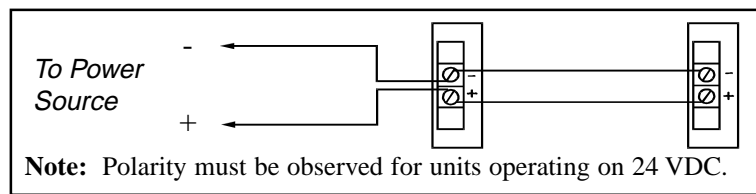

Figure 2. Electrical Connections
5. (Figure 2) Connect the strobe wiring terminals on the unit to a signal circuit that outputs a constant (not pulsed) voltage. Polarity must be observed for units operating on 24V DC.